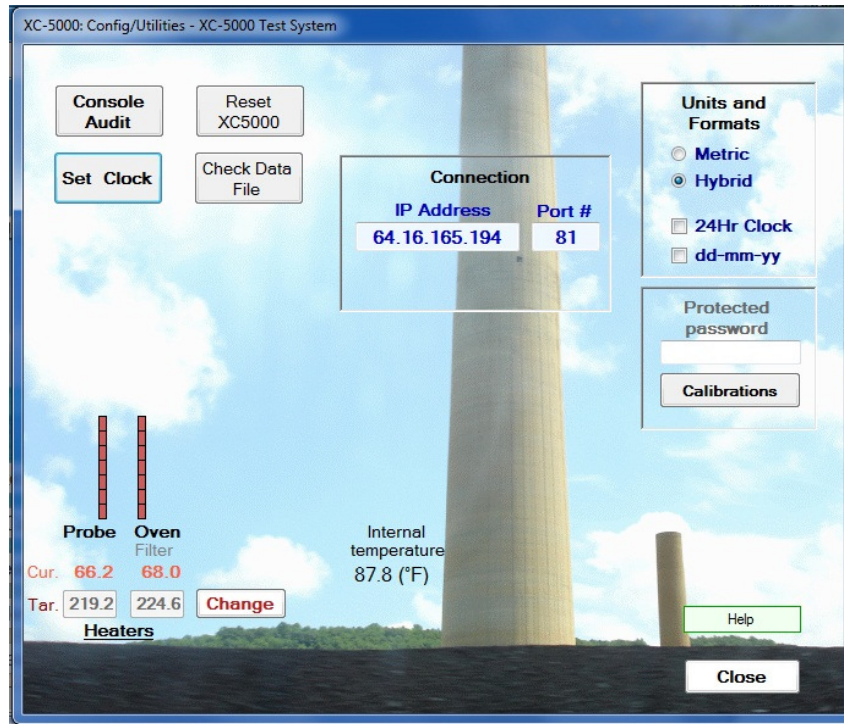

Figure 5 - Config / Utilities Window
- To activate the heaters in the filter compartment (Hot Box) and the probe heater turn on the switches labeled FILTER and PROBE from the "Monitor" window in the XC-5000 software's User Interface. The indicator lights on the SD31 Temperature automatic controllers will illuminate. The temperature controllers can be adjusted via the User Interface. Check the temperature display to verify if the heaters are working. Allow time for the temperatures to stabilize and verify operation of the circuits. The Config / Utilities interface window showing the Heater Controls is represented in Figure 5 - Config / Utilities Window , below.